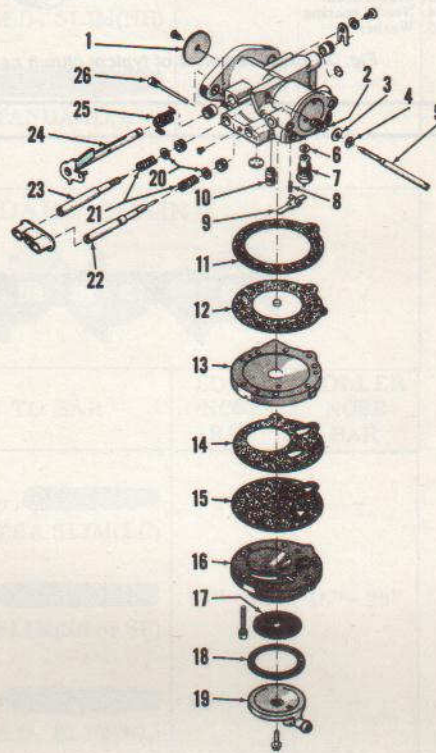
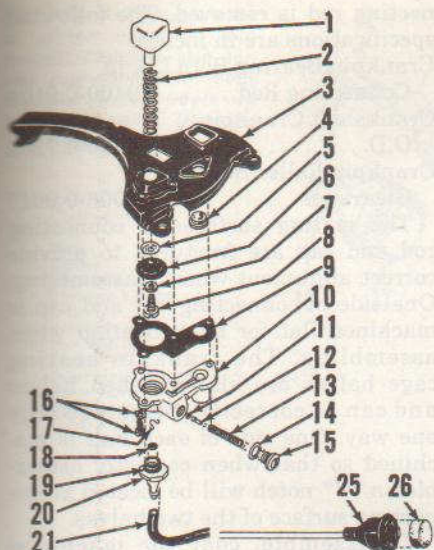

Fig. PR1-2—Exploded view of Tillotson HL model carburetor used on 450, 550 and NU17 models.
Fig. PR1-4-Exploded view of fuel primer pump and associated parts used on most models.
**CARBURETOR.** A Brown 1-PA carburetor (Fig. PR1-1) was originally used on 400, 400A and 410 models. The carburetor used on the earliest of these models was equipped with a choke as shown (28 thru 31); however, later models use a fuel primer pump (Fig. PR1-4) and the choke operating parts are removed. A Tillotson HL-108A carburetor (Fig. PR1-2) and a fuel primer pump (Fig.
On Brown carburetors, normal setting for the high speed needle (22—Fig. PR1-1) is 3/4 to 1 turn open and 1 to 1 1/2 turns open for the idle mixture needle (23). On Tillotson carburetors, normal setting is 3/4 turn open for both the high speed needle (22—Fig. PR1-2) and the idle mixture needle (23). On all models, clockwise rotation of the adjusting needles will lean the mixture.
The fuel primer pump (Fig. PR1-4) is located on the control panel of models so equipped. Depressing primer button (1) should squirt a small amount of fuel into the carburetor inlet for starting. Inspect the check valves (12 & 18), diaphragm (6) and filter (26) if fuel primer pump does not operate.
Fig. PR1-1—Exploded view of the Brown diaphragm carburetor used on early models. Springs (27) are located above both check valves. Choke parts (28-31) are sometimes removed when fuel primer pump (Fig. PR1-4) is installed. Refer to Fig. PR1-2 for legend except the following.